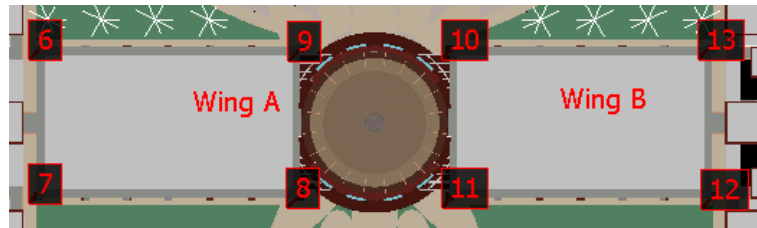

Figure 3-54 Tags created on both the wings
5. Repeat the procedure followed in steps 1 to 4 and add tags on both the wings, as shown in Figure 3-54.